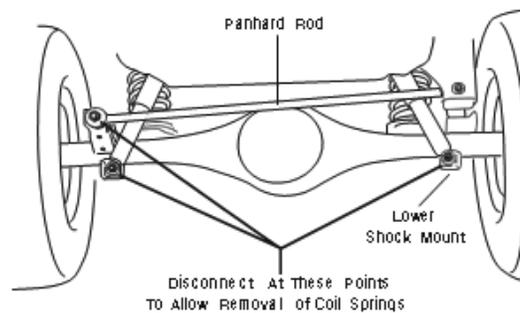

fig. 2
- a. Detach the shock absorbers at the lower shock mount (fig. 2).
- b. Detach the panhard rod at the lower axle mount (fig. 2).